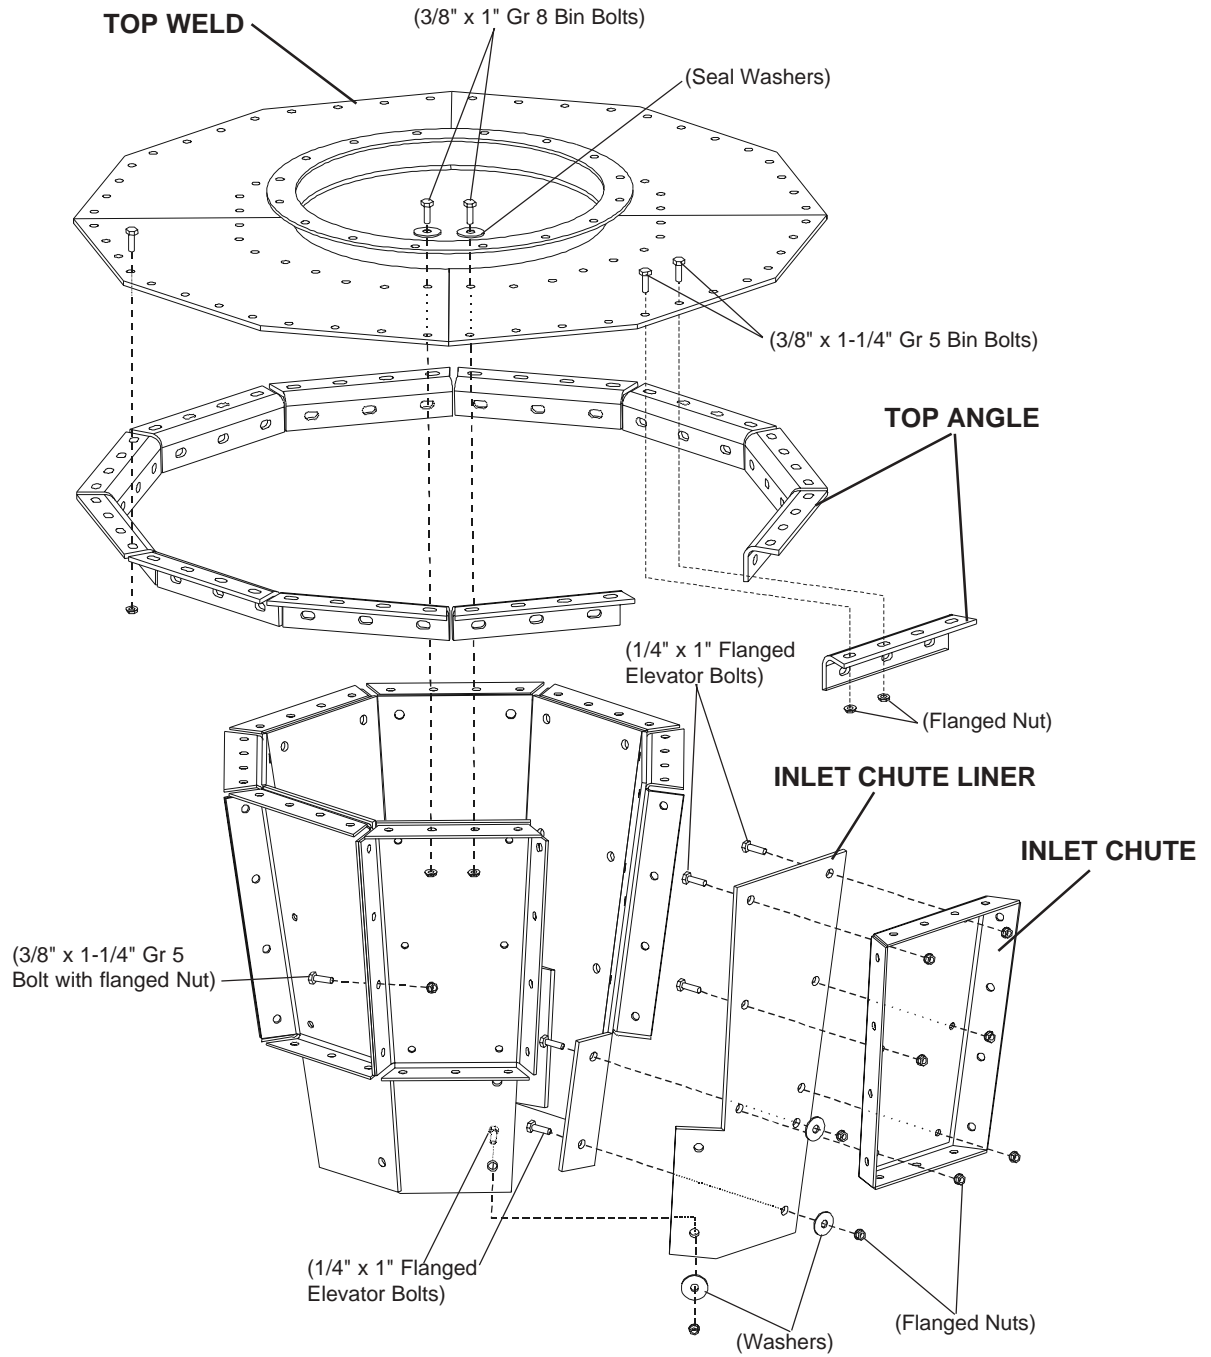

Fig. 10-1
- 2. Preassemble the Top Cap/Inlet** by placing the **TOP WELD**ment inverted on a support which allows access to both sides. Install the **INLET CHUTE SIDES** using 3/8" x 1" Gr. 8 Bin Bolts (with seal washers) and Flanged Nuts inserted from the Top Weld side. Connect the internal flange using 3/8" x 1-1/4" Gr. 5 Bolts and Flanged Nuts. The expanded metal backed **INLET CHUTE LINERS** install to the inside of the Inlet Chute Sides using 1/4" x 1" Fanged Elevator Bolts and Flanged Nuts. Where the Liner Material overlaps, use a Washer behind the 1/4" Flanged Nuts. Install the **TOP ANGLES** around the perimeter of the Top Weldment on the same side as the Inlet Chute. Fasten with the 3/8" x 1-1/4" Gr. 5 Bolts and Flanged Nuts. Tighten all the bolts in this assembly. (See Fig 10-1)